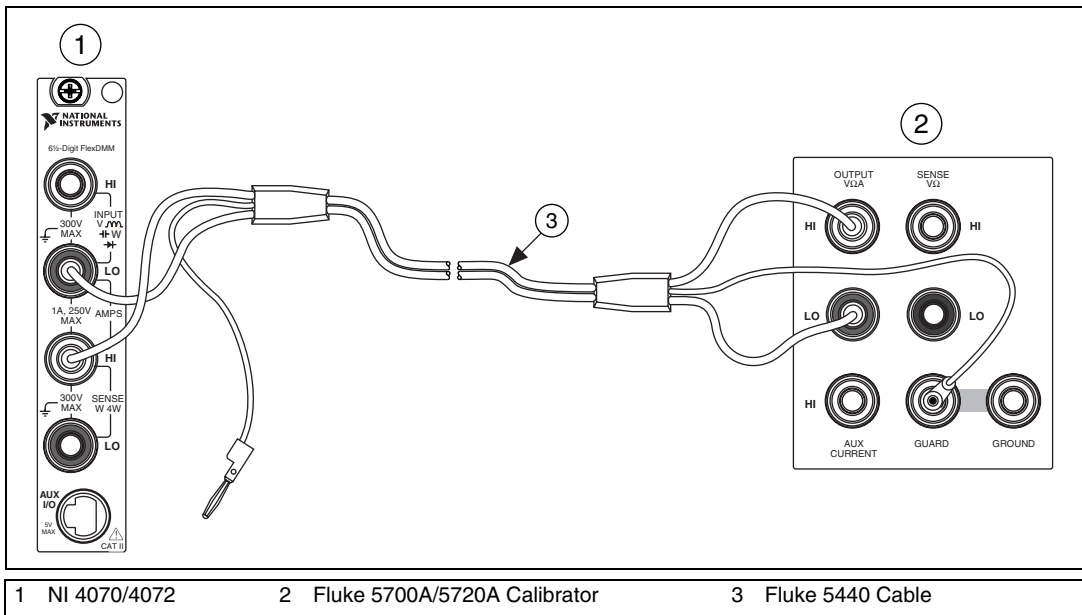

Figure 3. Cable Connections for Current
2. Fasten the connectors on one end of the Fluke 5440 cable to the NI 4070/4072 *HI SENSE* and *LO* banana plug connectors, and connect the connectors on the other end of the cable to the *HI* and *LO* calibrator binding posts. Figure 3 shows the correct connections. Table 9 lists the cable connections.
2. Fasten the connectors on one end of the Fluke 5440 cable to the NI 4070/4072 *HI SENSE* and *LO* banana plug connectors, and fasten the connectors on the other end of the cable to the *HI* and *LO* calibrator binding posts. Figure 3 shows the correct connections. Table 9 lists the cable connections.